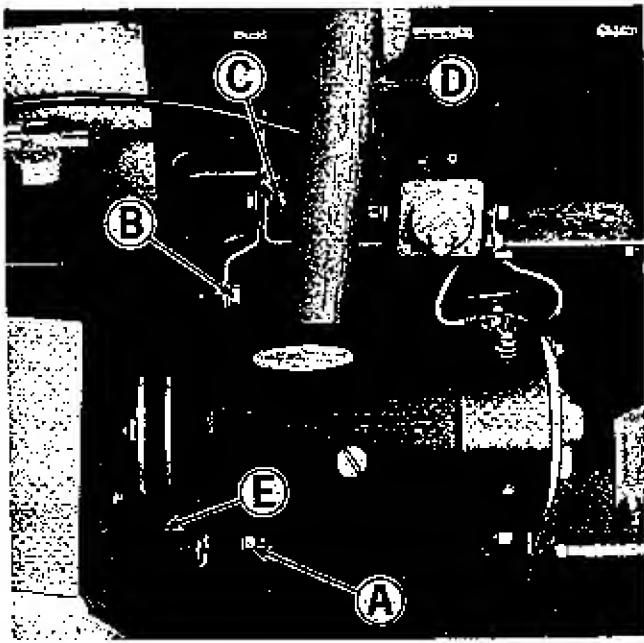

Figure 17. Generator located on right side of engine.
See figure 17. If the starter turns, but the engine does not rotate, the starter generator belt may need tightening. Proceed as follows:
2. See figure 17. Loosen slightly the two nuts (A) cap screw (B) and nut (C). Use a pry bar similar to the one shown between the generator and engine block to apply pressure to the generator and tighten the belt. The belt should be tight enough so thumb pressure at (E) will deflect it about $1/4$ ".
3. While holding the pry bar to maintain tension on the belt, tighten the mounting bracket at (C) securely.
4. Actuate the starter to make sure the engine will rotate. If it does not, loosen the nut at (C) and apply more tension to the belt.
5. Tighten the two nuts at (A) and the cap screw (B) securely.